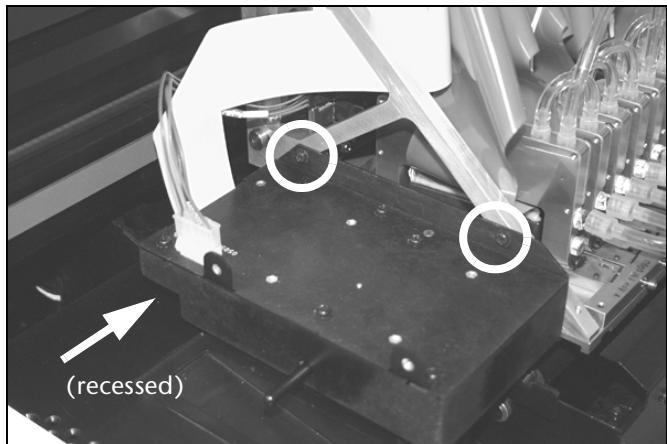

Fig. 5-8. Camera enclosure mounting screws
13. Loosen the three camera enclosure mounting screws (see Fig. 5-8 below).